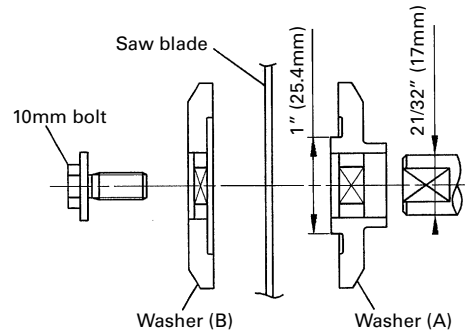

Fig. 44-d
- (7) Press in the spindle lock and tighten the 10mm bolt by turning it to the left by standard accessories' wrench (17mm wrench) as indicated in Fig. 44-c.